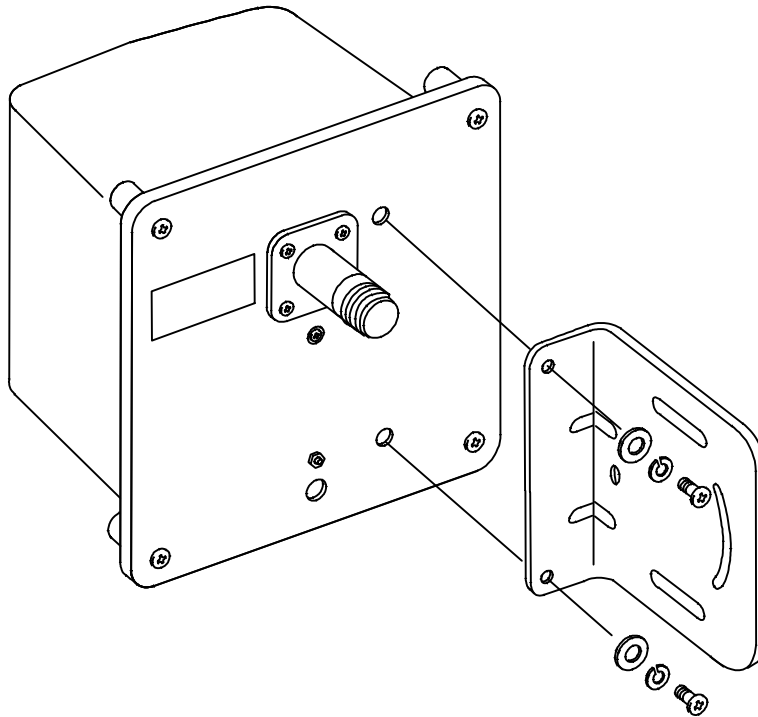

Figure 4-7 : Antenna Bracket Assembly
2. Assemble the FSU antenna by attaching the bracket to the antenna according to Figure 4-7.